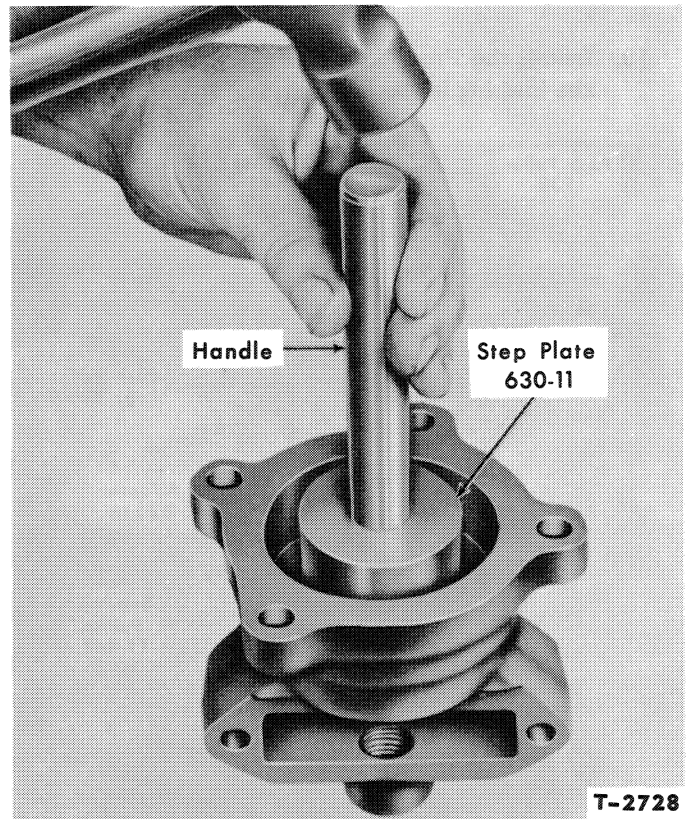

Figure 32—Seal Installation
3. Install the seal in the housing with Step Plate 630-11, Figure 32.